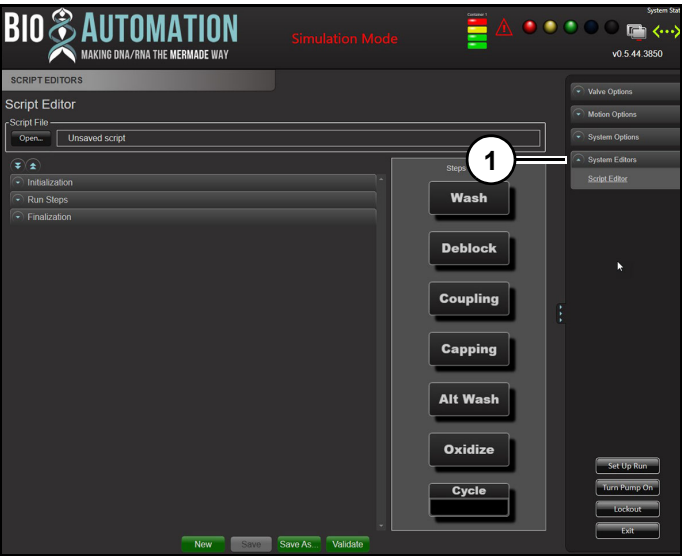

Figure 66
System Editor (1) (Figure 66) allows user to modify and create script files.